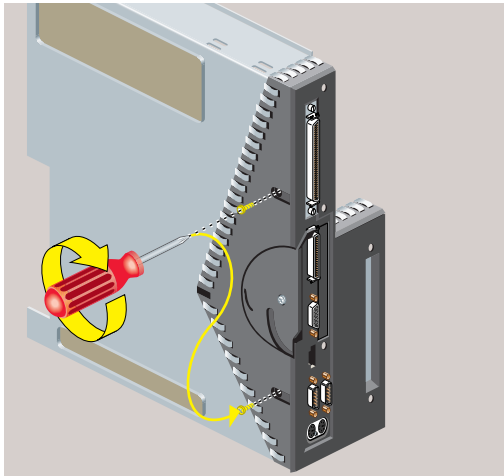

Figure 2-42 Replacing Two Screws on the Face Plate
- Use a Phillips screwdriver to insert and tighten two screws on the underside in the locations shown (Figure 2-42).